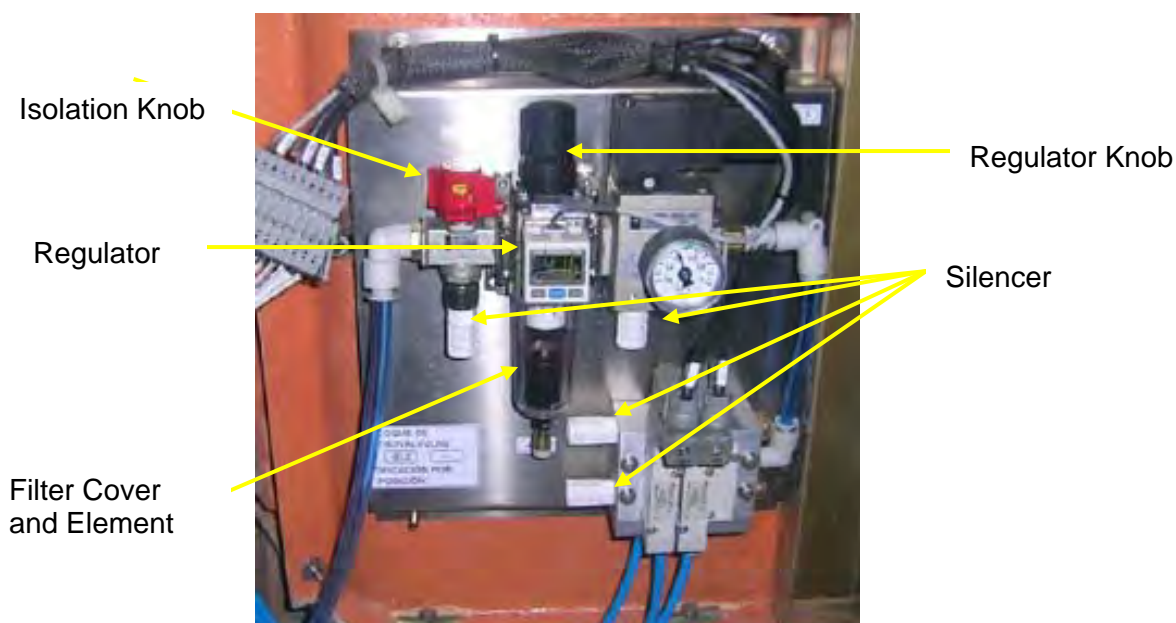

Figure 1: Pneumatic Control Panel
2. Isolate the pneumatic supply by turning the red isolation knob (see Figure 1).
- 4.1 Remove the silencers from the base of the isolation valve, gauge valve, and solenoid valves and discard (see Figure 1).